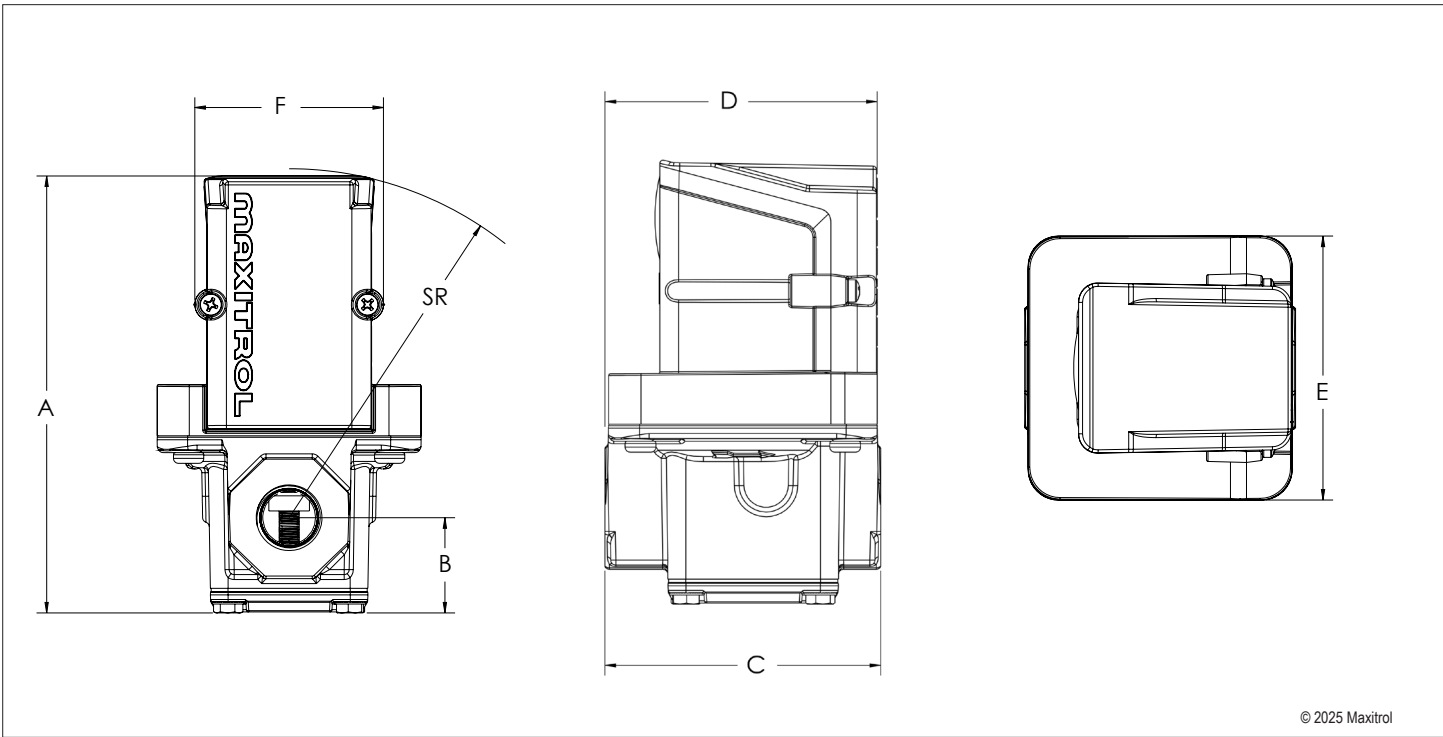

Figure 4: EXA Series Modulating Valve Dimensions
**NOTE:** Dimensions are to be used only as an aid in designing clearance for the valve. Actual production dimension may vary somewhat from those shown (see Figure 4 and Table 9).
When valve power is restored, the Setting LED (see Figure 4, page 7) will flash the one's place of the address number. (e.g. two flashes designates address 52.)